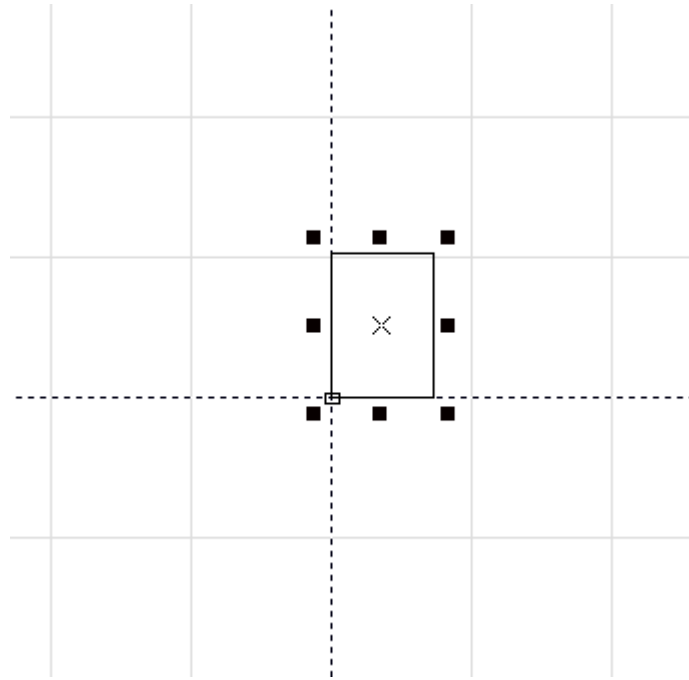

Fig. 2-11 Example of “Put to Origin” “Homing method”
- It is used for setting whether the user password shall be input to use the current software, as shown in Fig. 2-11.